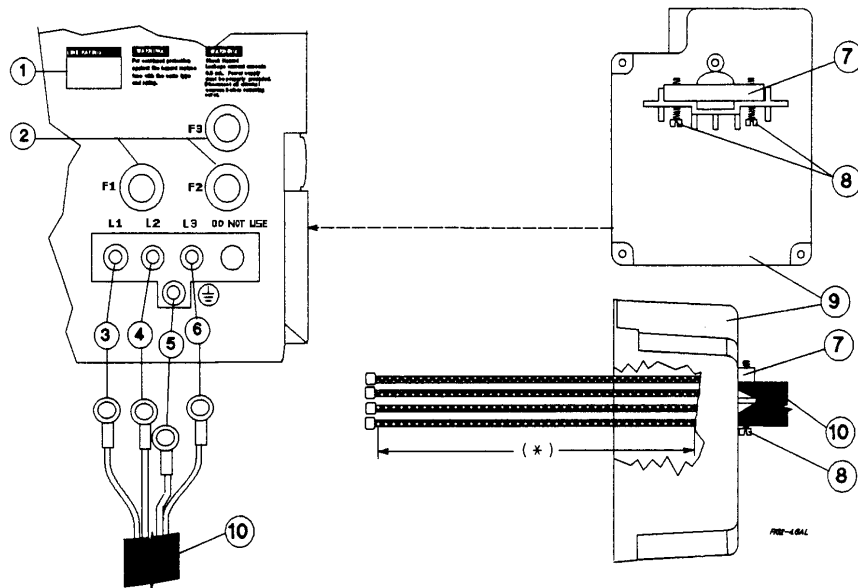

Figure 2-5. Connecting the Series 668xA Power Cord
See Figure 2-5 and proceed as follows:
1. Check the line fuses ( ②, Figure 2-5) as follows:
- a. Examine the **LINE RATING** label ① on the rear panel.
- b. Unscrew the line fuse caps ( ②) from the rear panel and verify that all fuses are as specified on the label. Replace the fuses.
2. Open the line clamp ⑦ and insert the line cord ⑩ through the opening.
3. Position the line cord so that the clamp is near the end of the outside insulating sheath. Tighten the screws ⑧ securing the clamp.